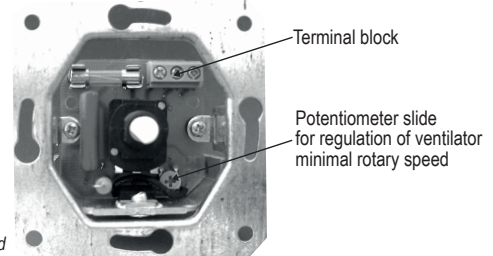

Fig. 2 Regulation of minimal rotary speed
- to place controller into the mounting box in a way to locate terminal block on top (see Fig. 2) and fix with screws;
- rotate potentiometer slide with isolated handle screwdriver (see Fig. 2) until rotary speed gets minimal;